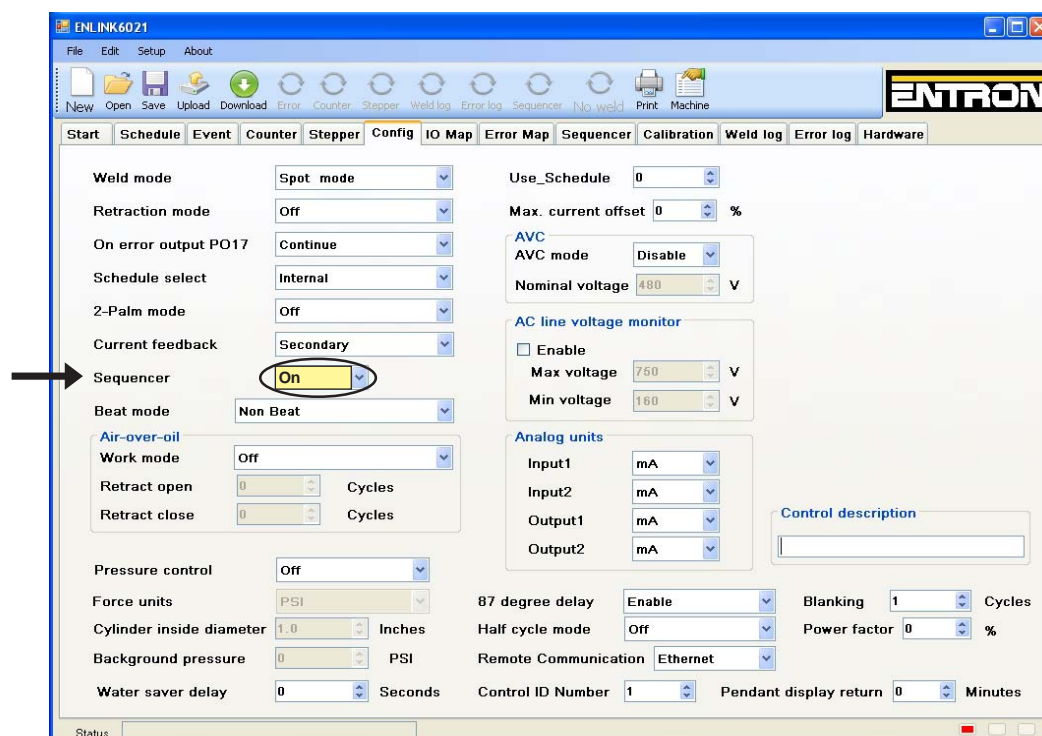

Figure 9-53. Configuration page
B. Enable SEQUENCER function on Configuration page (Figure 9-53).